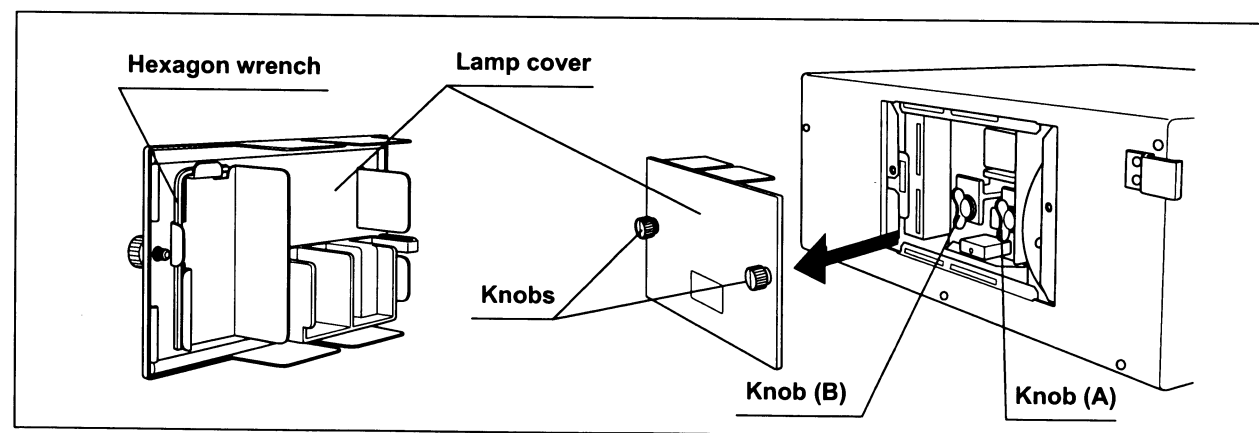

Figure 5.3
6. Remove the hexagon wrench from the rear of the lamp cover (see Figure 5.3).